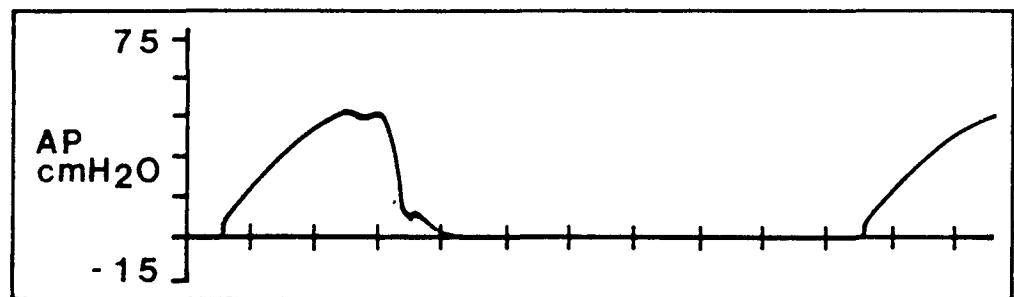

Figure 3.6.7.2-1. Airway Pressure Waveform Display
4. Press AIRWAY PRES. The graphic display shown in Figure 3.6.7.2-1 should appear.